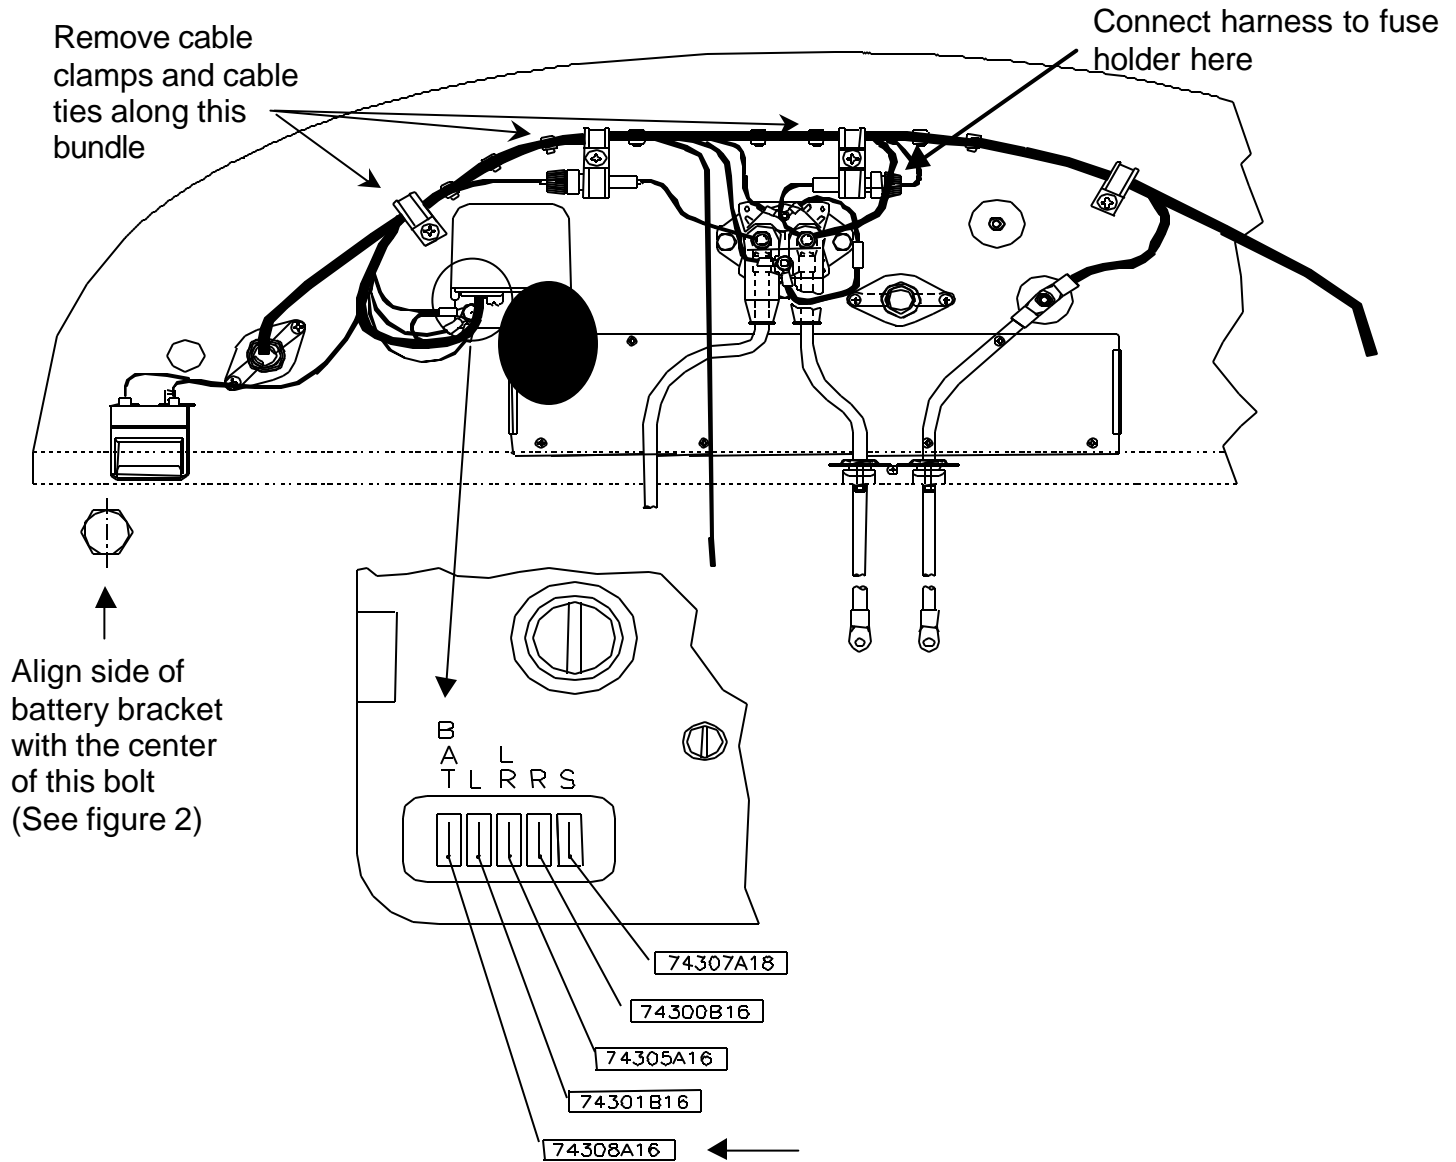

Figure 1
- 10.3** Disassemble cable clamps in three places as shown in figure 1. Note the location of the avionics cooler hose clamp on the aft side of the firewall.
- 10.4** Remove and discard tie-wraps along the wire bundle from the firewall middle fuse holder to the starting vibrator as shown in figure 1.
- 10.10** Install fuse and attach fuse cap from new harness to the existing fuse holder. Route the wires along bundle to the starting vibrator and new battery location. Route wires to the starting vibrator battery under the instrument vacuum hose as shown in figure 1.
- 10.12** Plug harness into the starting vibrator at location marked BAT see figure 1
- 10.13** Install the previously removed cable clamps. Install new cable ties as required as shown in Figure 1 to secure the wire bundle to the firewall.